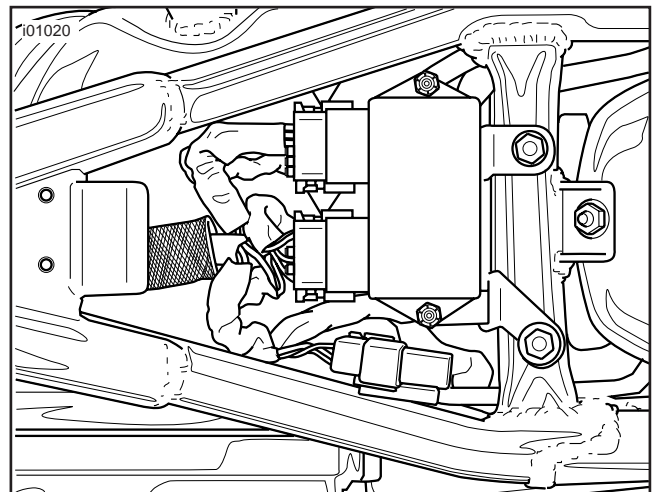

Figure 1. Ignition Module
2. See Figure 1. Remove seat and locate ignition module.